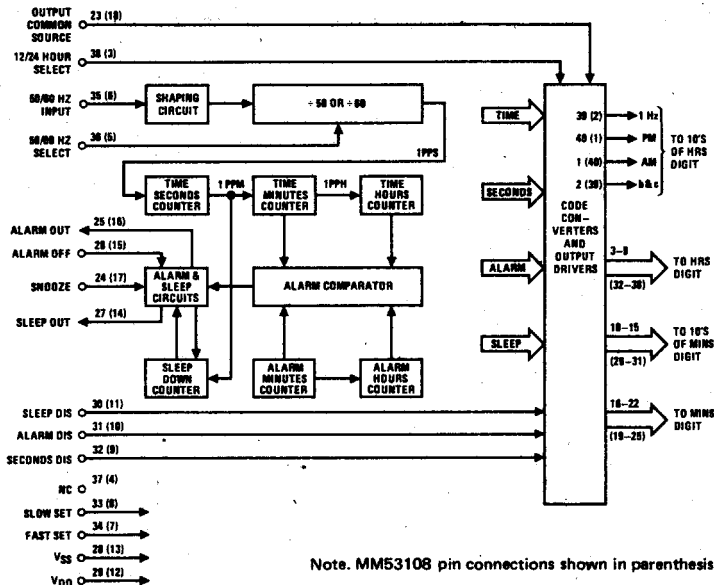

FIGURE 1
A block diagram of the MM5387AA, MM53108 digital clock radio circuit is shown in *Figure 1*. The various display setting modes are listed in Table I, and Table II shows the setting control functions. The following description is based on *Figure 1* and refers to both devices as they are electrically identical.
**Display Mode Select Inputs:** In the absence of any of these three inputs, the display drivers present time-of-day information to the appropriate display digits. Internal depletion pull-down devices allow use of simple SPST switches to select the display mode. If more than one mode is selected, the priorities are as noted in Table I. Alternate display modes are selected by applying VSS to the appropriate pin. As shown in *Figure 1* the code converters receive time, seconds, alarm and sleep information from appropriate points in the clock circuitry. The display mode select inputs control the
**Alarm Operation and Output:** The alarm comparator (Figure 1) senses coincidence between the alarm counters (the alarm setting) and the time counters (real time). The comparator output is used to set a latch in the alarm and sleep circuits. The latch output enables the alarm output driver (Figure 4b) which is used to control the external alarm sound generator. The alarm latch remains set for 59 minutes, during which the alarm will therefore sound if the latch output is not temporarily inhibited by another latch set by the snooze alarm input or reset by the alarm "OFF" input.